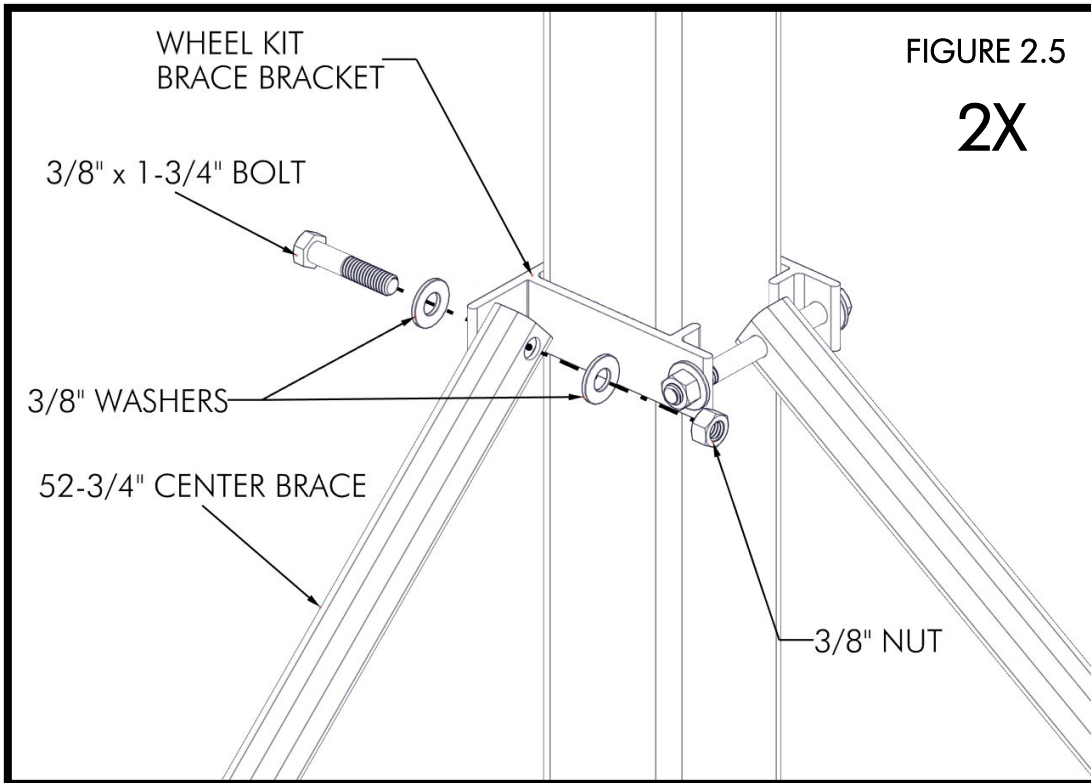
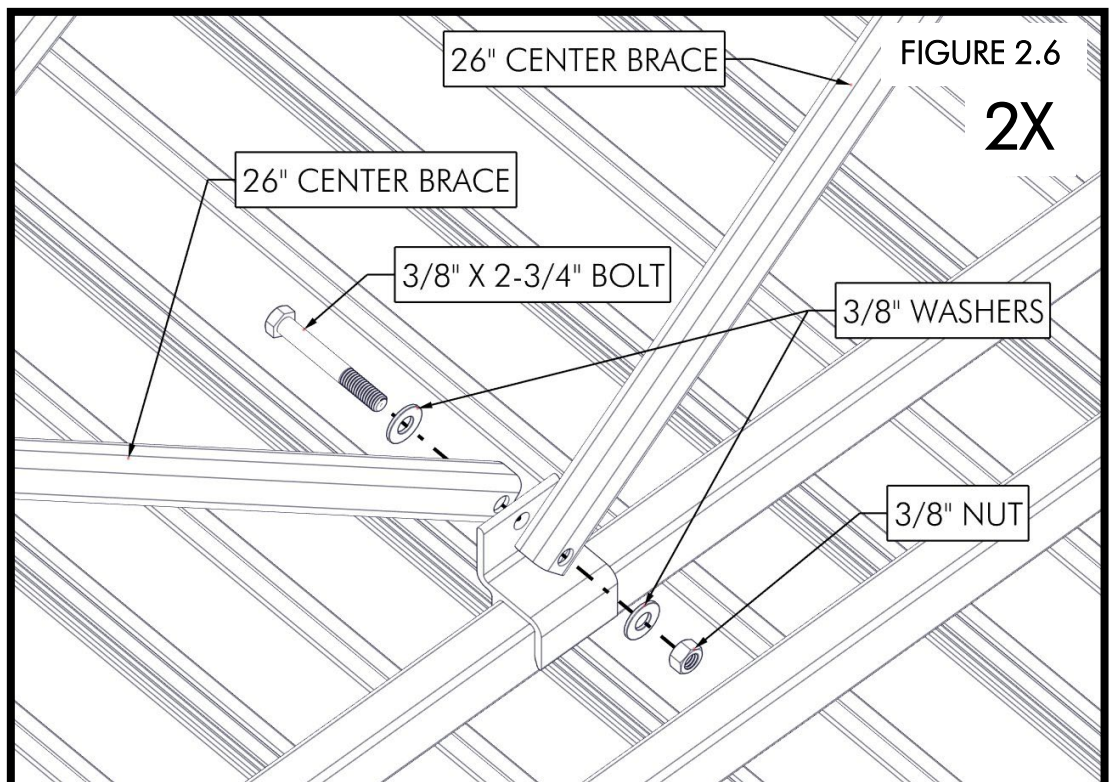

FIGURE 2.5
FIGURE 2.6
ATTACH THE 52-3/4" SIDE BRACES TO THE WHEEL KIT BRACE BRACKET USING (1) 3/8" X 1-3/4" BOLT, (2) 3/8" WASHERS, AND (1) 3/8" NUT PER SIDE (FIGURE 2.5). CONNECT THE END(S) OF THE (2) CENTER BRACE(S) TO THE BRACKET ON THE DOCK USING (1) 3/8" X 2-3/4" BOLT, (2) 3/8" WASHERS, AND (1) 3/8" NUT (FIGURE 2.6).